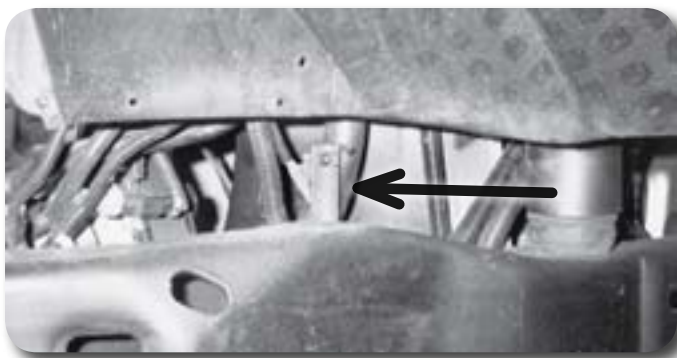

Figure 6
25. Attach the ground cable relocation bracket (3" strap w/stud) to the original mounting hole in the frame using the stock bolt. Using a 1/4" nut and 1/4" SAE washer, mount the stock cable bracket to the relocation bracket **Figure 6**.